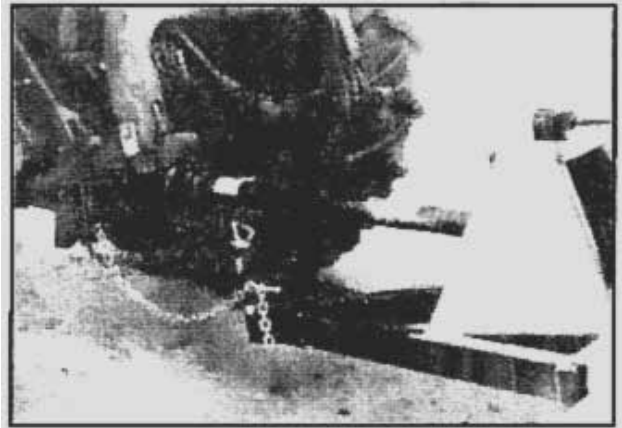

Figure 9. Belt Drive
12. Attach the driveline to the tractor by retracting the locking collar. Slide the yoke over the shaft and push on the yoke until the lock collar clicks into position. Make sure the yoke is locked into position. See Figure 9.